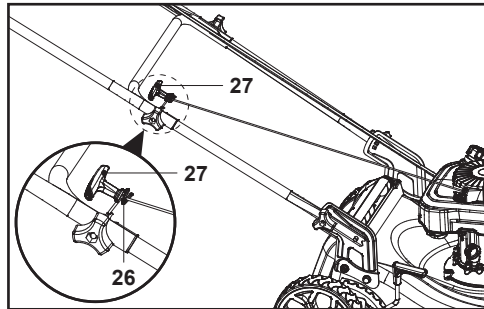

Fig. 13
3. Always rest the recoil starter handle (27) onto the hook (26) located on the right-hand side of the handle assembly (4, 7) (Fig. 13) when the recoil starter is not operated.